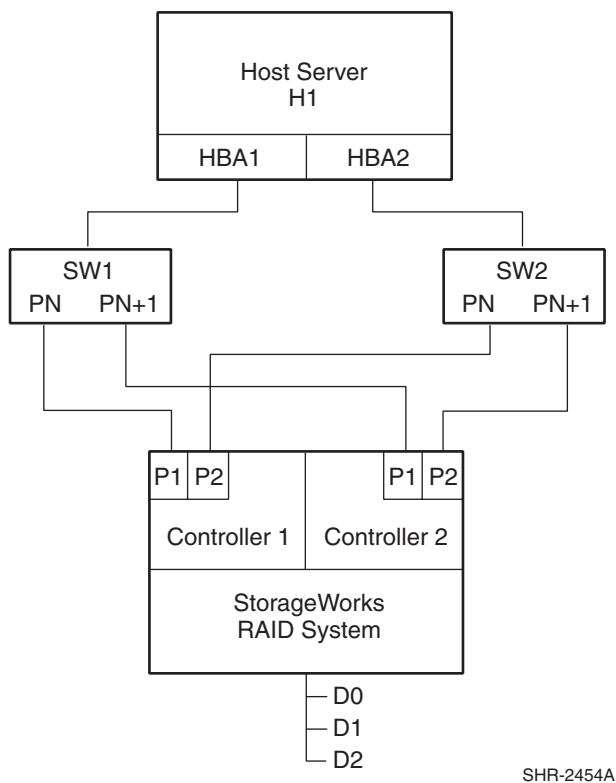

Figure 2-1: Configuration Schematic
6. Refer to the configuration schematic in Figure 2-1 on page 2-4 and perform the following actions: